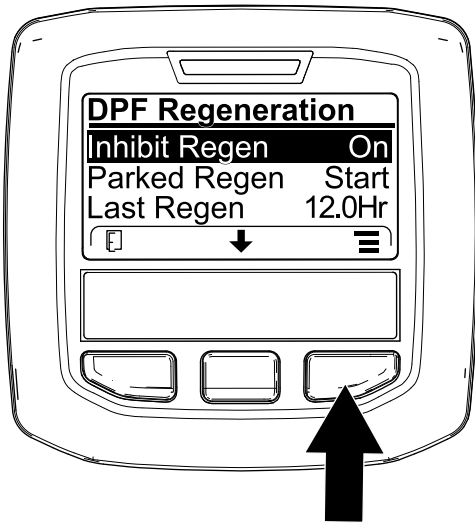
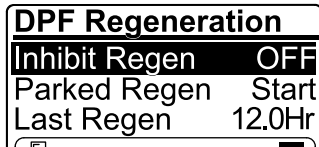

Figure 66
Figure 67
1. Access the DPF Regeneration menu, press the center button to scroll down to the INHIBIT REGEN option, and press the right button to select the Inhibit Regen entry (Figure 66).
- Press the right button to change the inhibit regeneration setting from On to Off (Figure 66) or from Off to On (Figure 67).